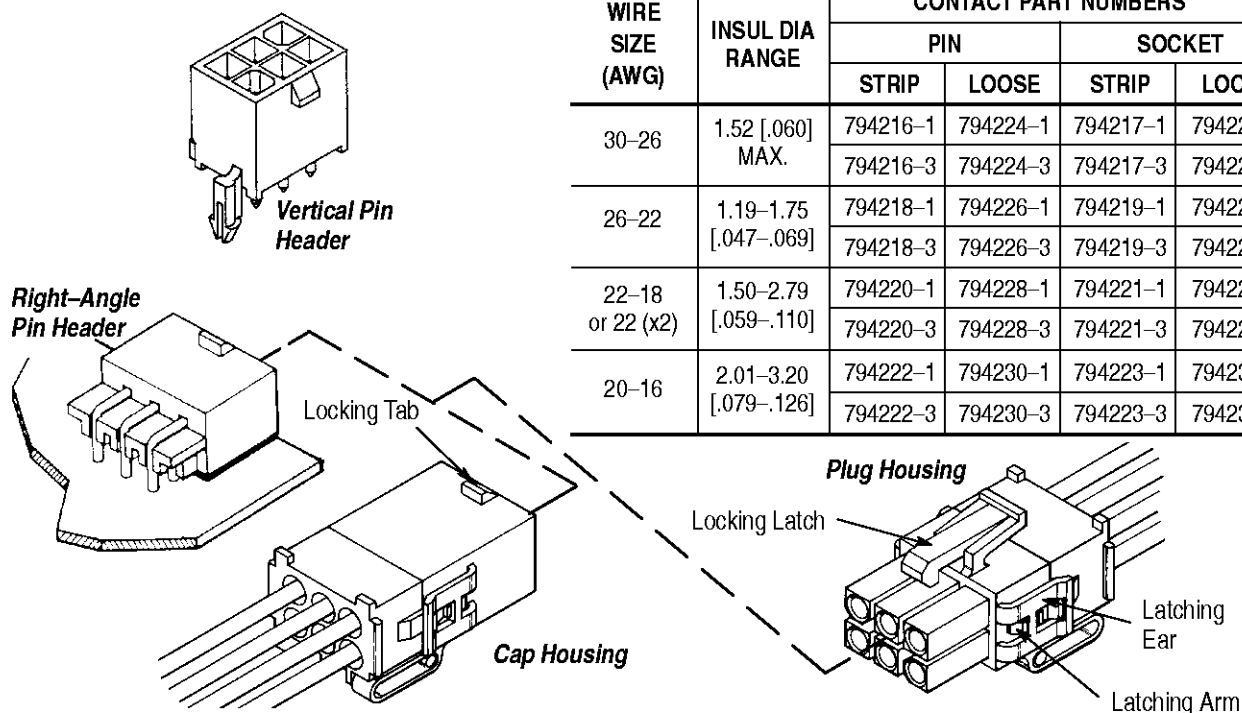

Figure 1
This instruction sheet provides assembly and disassembly procedures for AMP® Mini-Universal MATE-N-LOK 2 Connectors. Connector components are listed in Figure 1.
1. Select appropriate pin and socket contacts from table in Figure 1. Follow termination procedures shown in Application Specification 114-1111.
- Added part numbers to table in Figure 1